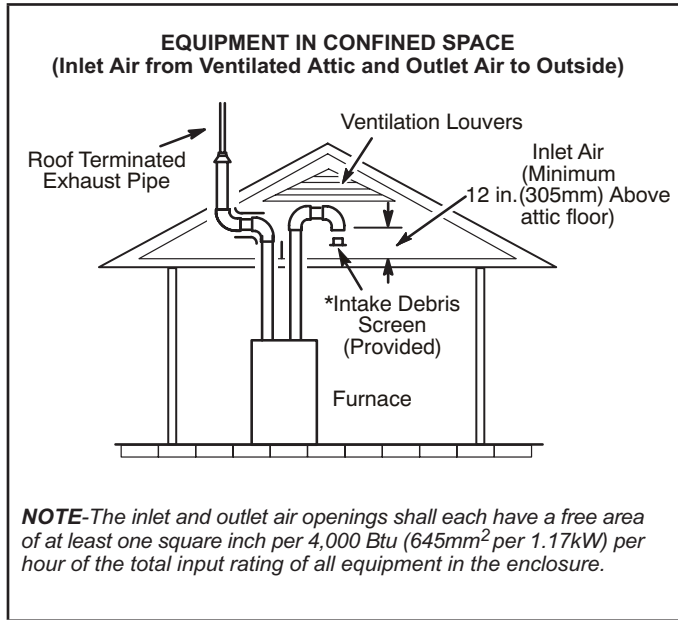
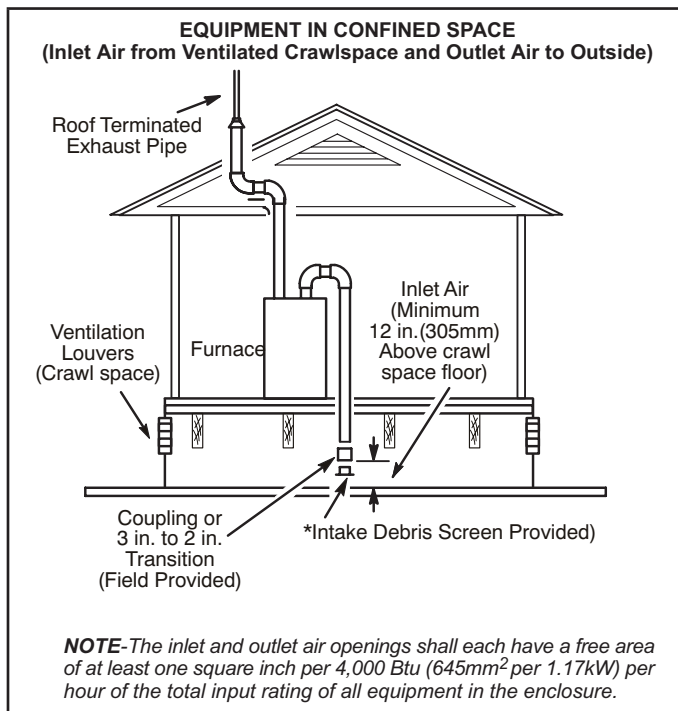

FIGURE 27
FIGURE 28
- 2 - If intake air is drawn from a ventilated attic (FIGURE 27) or ventilated crawlspace (FIGURE 28) the exhaust vent length must not exceed those listed in TABLE 23. If 3" diameter pipe is used, reduce to 2" diameter pipe at the termination point to accommodate the debris screen.